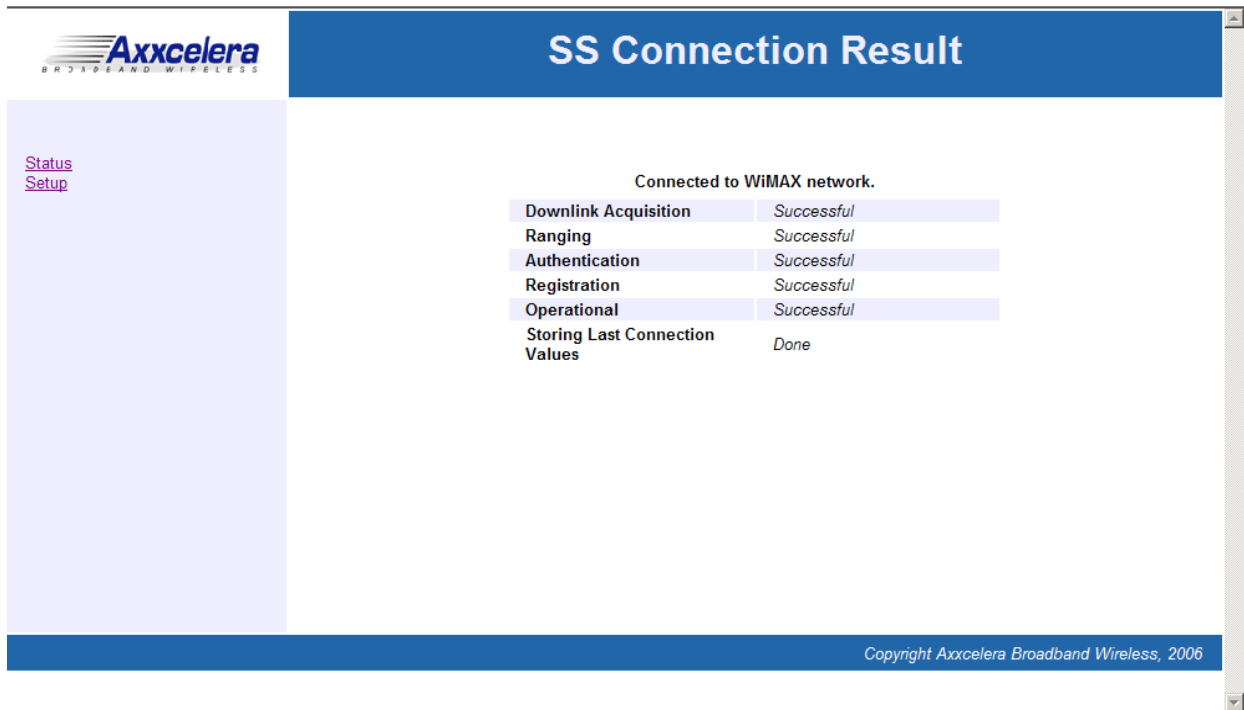

Figure 9-4 Connection Result screen
- 11) Click **Connect** to continue to the **Connection Result** screen (Figure 9-4).